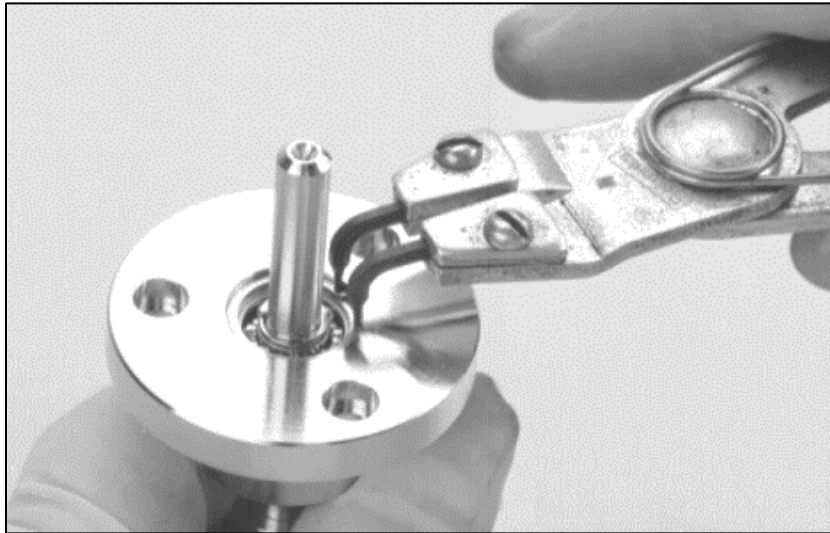

Figure 5-19. Removing Retaining Securing Outer Bearing in Bearing Housing
Step 1: Hold the drive shaft assembly in one hand, with the shaft extending toward you, as shown in Figure 5-19. Using a snap-ring tool with the correct-sized prongs, remove the retaining ring that holds the outer drive bearing in place in the bearing housing.